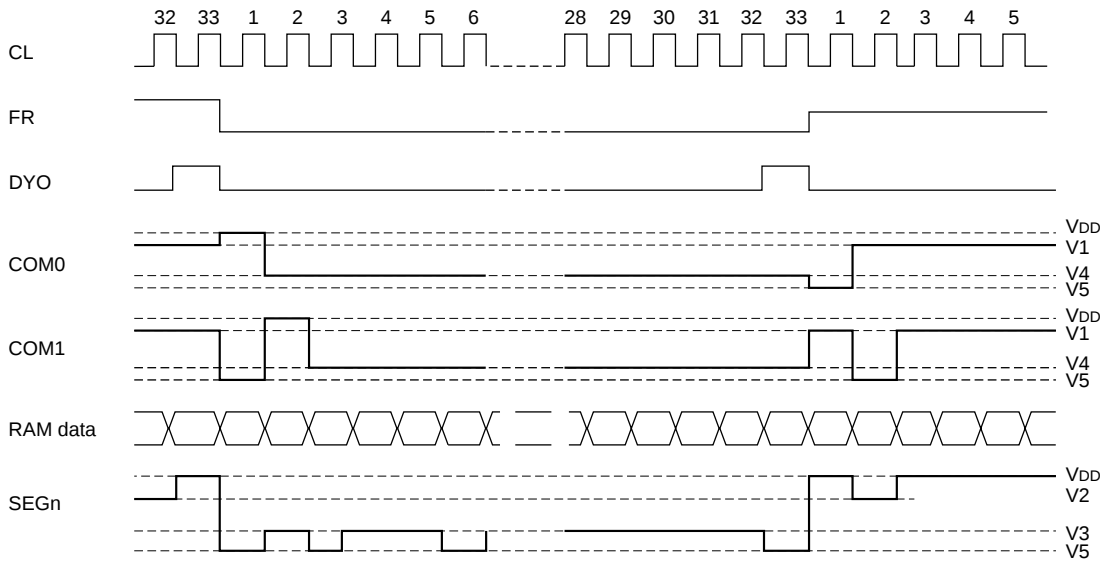

Fig. 6
When an AC signal (FR) is switched, a high pulse is output as a DYO output at the training edge of the previous display clock. Refer to Fig. 6. The DYO output is output only in master mode. When the SED1530 series is used for multi-chip, the slave requires to receive the FR, CL, DOF signals from the master. Table 4 shows the FR, CL, DYO and DOF status.